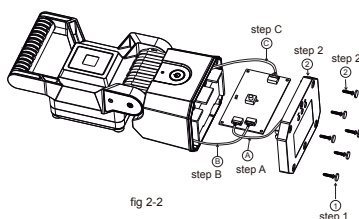

fig 2-2
- Remove six rubber pads from the body cover. (Refer to fig 2-2 step 1)
- Remove six screws and then the body cover. (Refer to fig 2-2 step 2)
- Unplug the battery connection (refer to fig 2-2 step B) and remove the whole battery pack (fig 2-3).